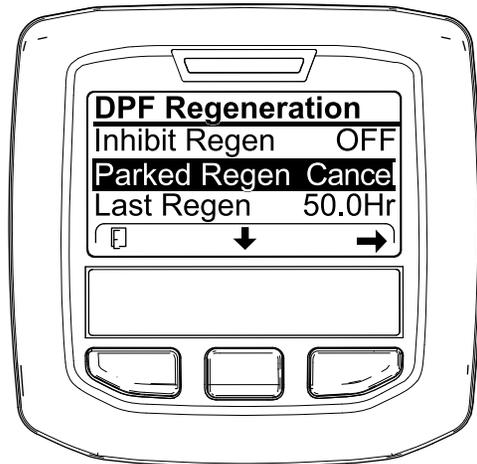

Figure 71
1. Access the DPF Regeneration menu (Figure 71).
2. Press the center button to scroll down to the PARKED REGEN CANCEL (Figure 71) or the RECOVERY REGEN CANCEL option (Figure 72).
3. Press the right button to select the Regen Cancel entry (Figure 71 or Figure 72).